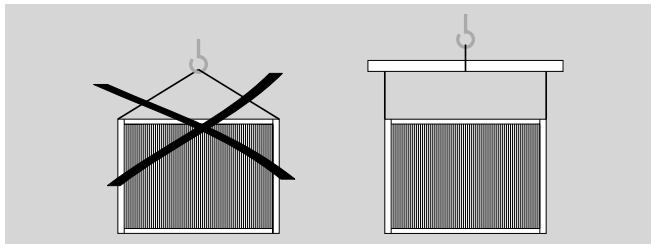

Fig. 9-1: Do not suspend the exchanger in one point!
- In general: Do not suspend the exchanger in one point but always over a crane beam (Fig. 9-1).